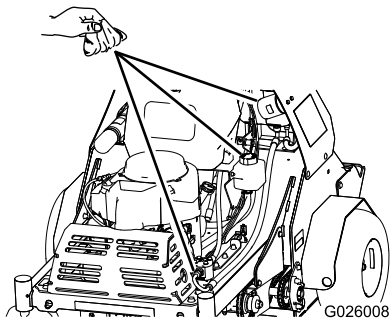

Figure 55
- Carefully clean area around the front of the auxiliary pump, the fill cap for the reservoir, and the filter (Figure 55).